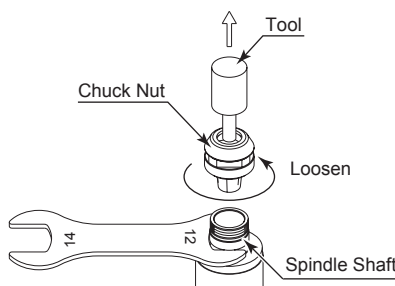

Fig. 9
- ① Remove the tool according to the section " 4. CHANGING THE TOOL" procedure above and remove chuck nut assembly. (Fig. 9)